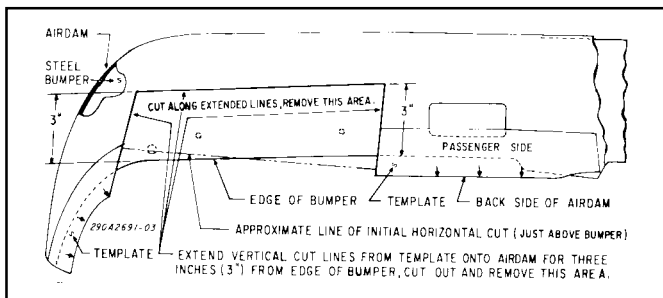

Figure 4. Cutting Air Dam.
4. See figure 4. Using the vertical cuts as a guide, mark a cut line on the air dam 3-inches from